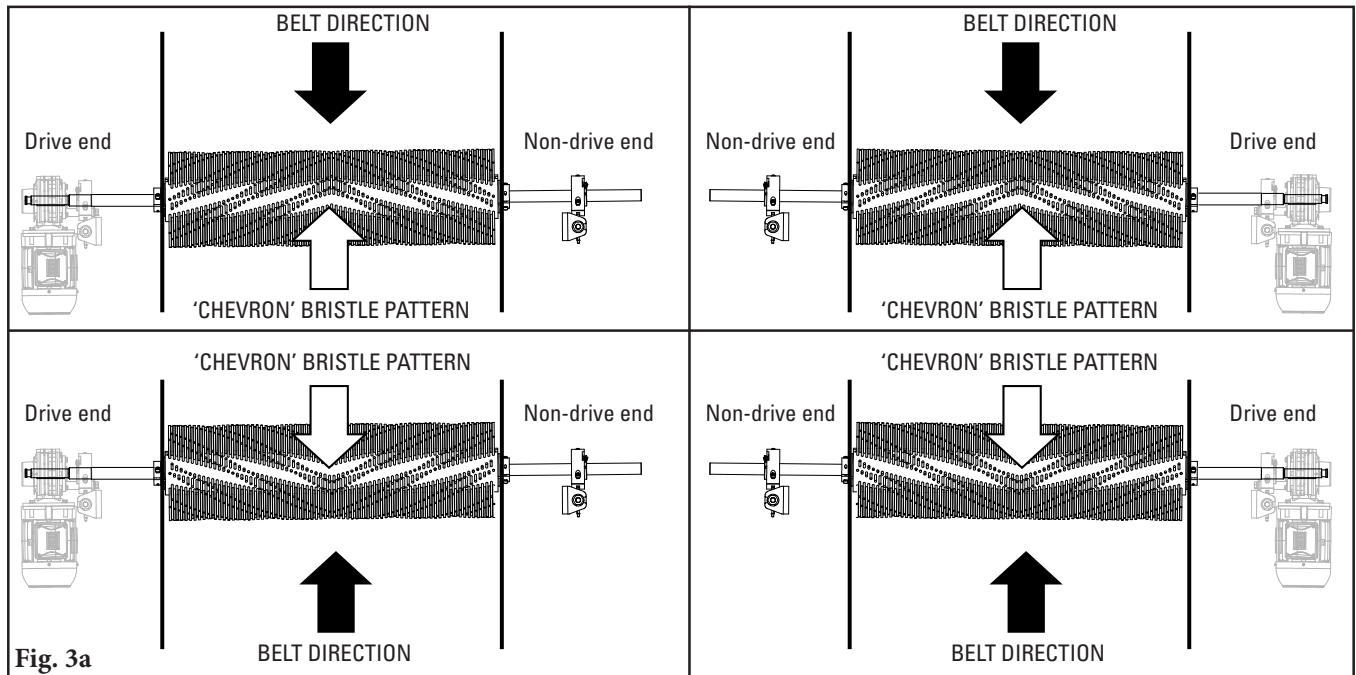
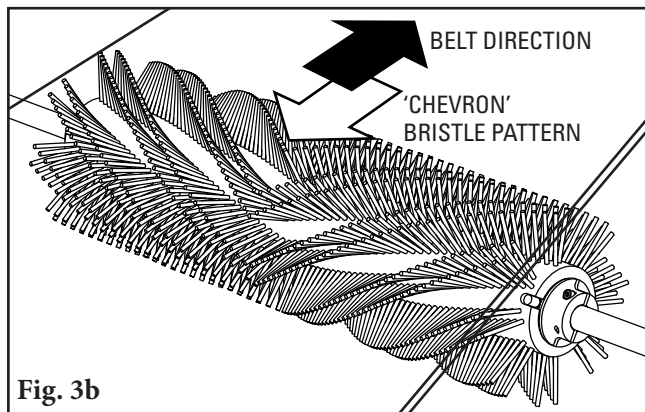
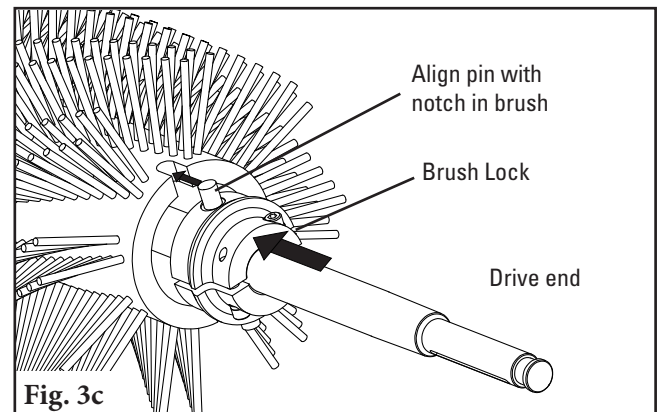

Fig. 3a
Fig. 3b
Fig. 3c
3. **Assemble brush to shaft.** Determine which side of the conveyor the motor will go on. The drive end of the shaft must be located on this side (drive end detail shown in Fig. 3c). Choose appropriate motor/brush configuration from the diagrams below (Fig. 3a). Slide brush onto shaft per selected configuration. **NOTE: 'Chevron' bristle pattern should be pointing against the direction of belt travel** (Fig. 3b). Then slide a brush lock on each end of the shaft and into end of the brush, aligning pins on brush lock with notches in the brush (Fig. 3c).